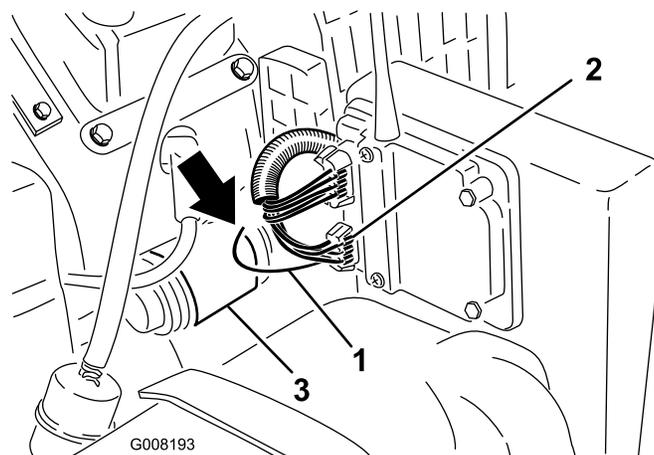

Figure 21
1. Locate the yellow with black stripe wire which is tucked into the wire harness tubing coming from the 6 pin connector at the receiver (Figure 21). Pull the wire out of the tubing.